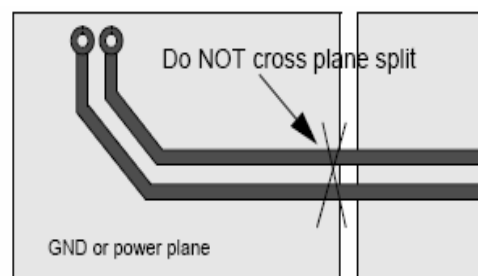

Figure 4. Signal Trace
- Signals crossing a plane split (see Figure 4) may cause unpredictable return path currents and would likely result in signal quality failure, as well as creating EMI problems.